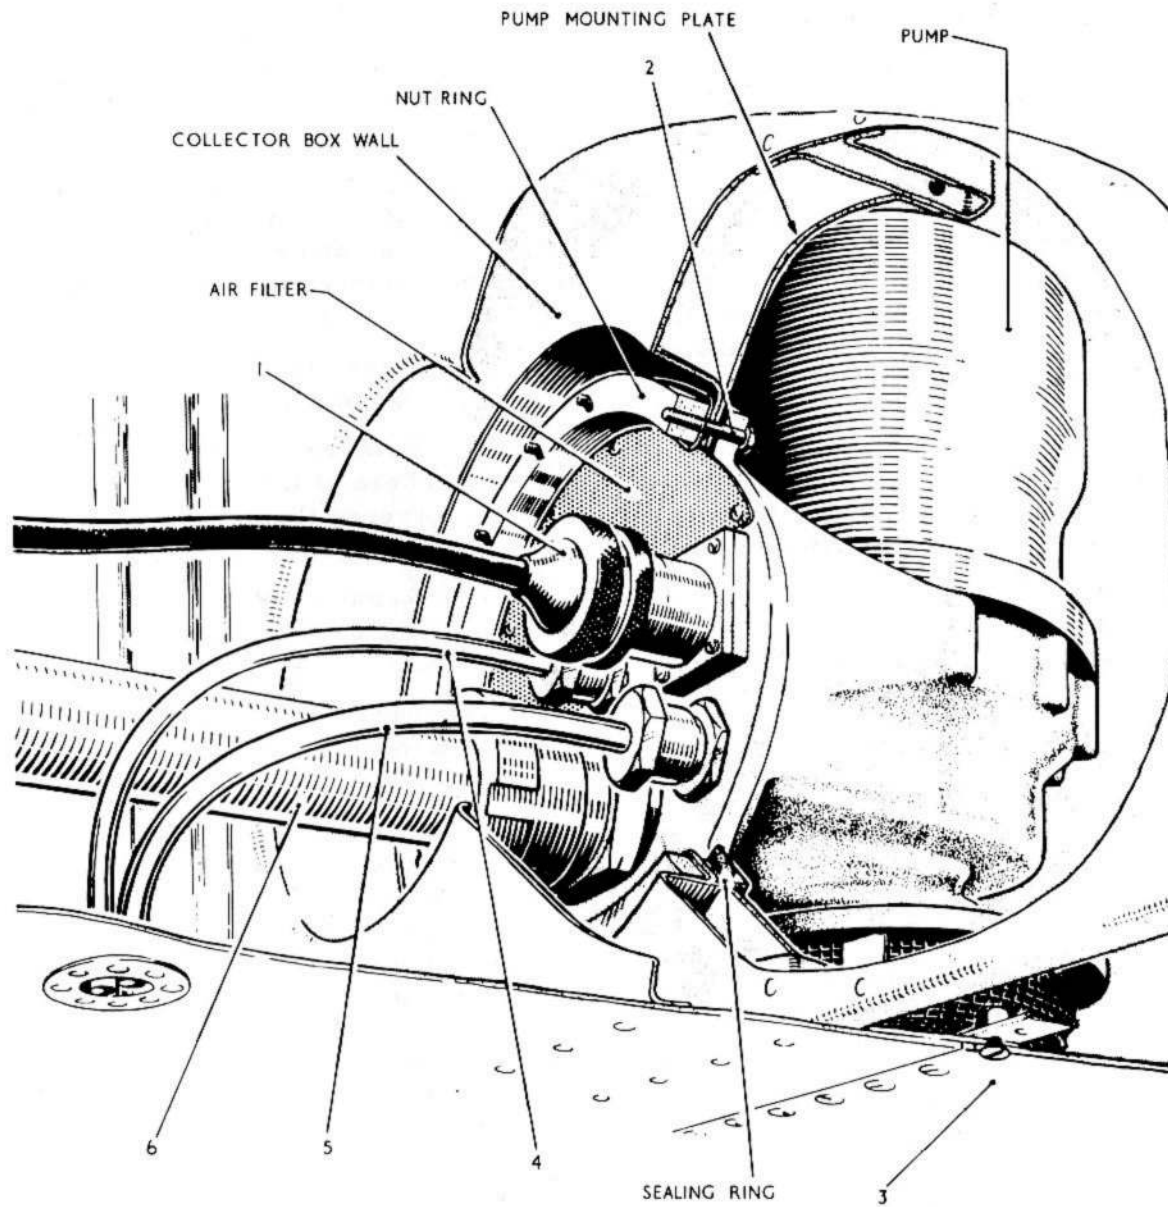

Fig.10 Fuel pump removal—main plane integral tanks
58. To remove a fuel pump from a main plane integral tank refer to fig. 10 and proceed as follows:-